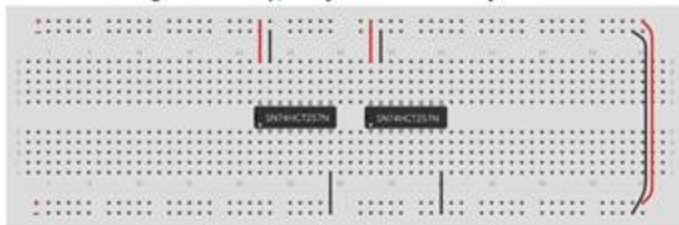

Figure 7: Place the chips and connect them to power and ground.
- Place the three bus connectors as shown in Figure 7.